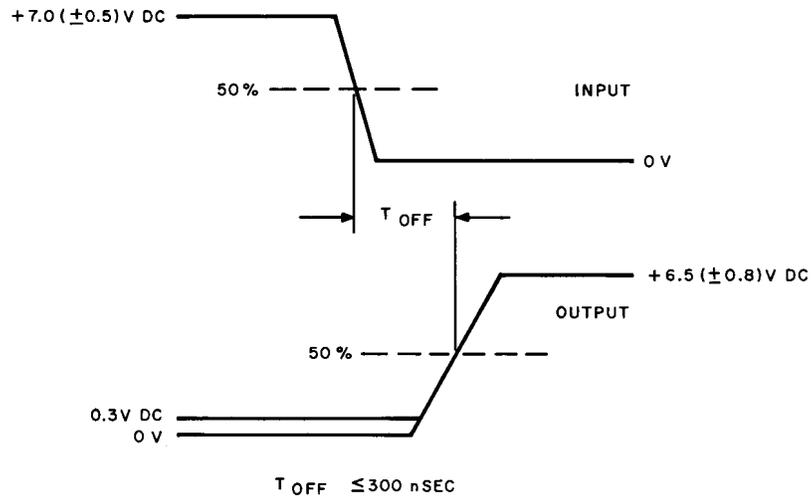

Fig. 3A. — NOR Gate Test
(1) Set the DPDT switch to position 2 and the TEST FUNCTION selector to position 1.
(2) Set the EXT SYNC TRIGGER to (—) negative.
(3) Rotate the GATE selector through positions 1 to 10. The input and output steps shall be as specified in Fig. 3A at each position.